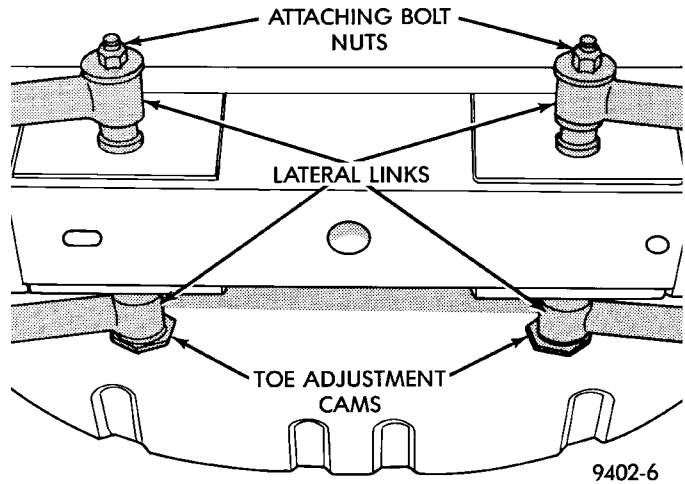

Fig. 6 Torquing Rear Lateral Link Attaching Bolts
(6) While holding Toe adjustment cams from turning, tighten left and right lateral links to rear crossmember attaching bolt nuts. This will securely hold adjustment cams in position. Then while holding lateral link attaching bolt and adjustment cam from turning, torque nut of lateral link attaching bolt to 95 N·m (70 ft. lbs.) (Fig. 6).